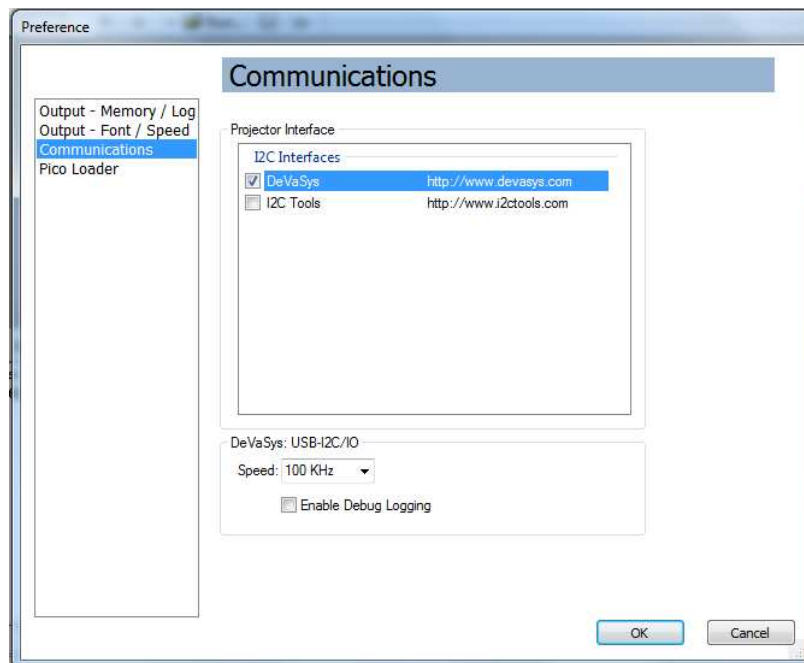

Figure 2. Selecting Communication Options GUI
2. At the end of the dialog box, select 100 kHz as the I²C speed (see Figure 2).